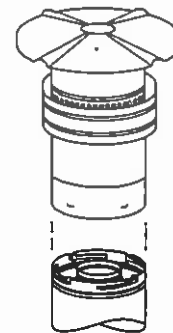

Figure 26
K. Install the vertical termination - The final step involves installation of the SV4.5VTR Vertical Termination. Extend the vent sections to the height as shown in the "Vertical vent termination section" on page 5. The SV4.5VTR Vertical Termination (*Figure 26*) can be installed in the exact same fashion as any other Secure Vent section. Align the termination over the end of the previously installed section, adjusting the radial alignment until the four locking dimples of the termination are aligned with the inlets of the four incline channels of the last vent section. Push the termination down until it fully engages, then twist the termination clockwise running the dimples down and along the incline channels until they are seated at the end of the channels.